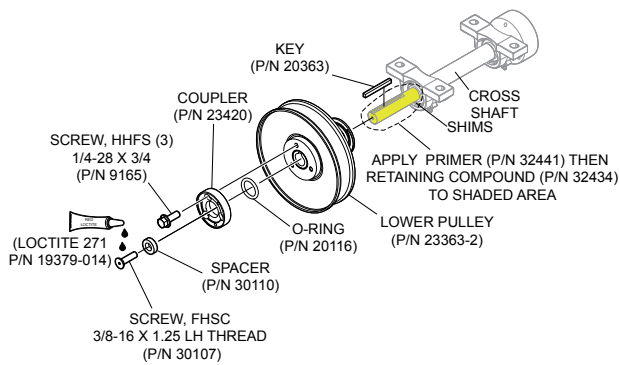

Figure 15. Lower Pulley Installation
Reference Figure 15.
2. Apply primer (Loctite 7649, P/N 32441) to the cross shaft and key way in the shaded area shown in Figure 15.